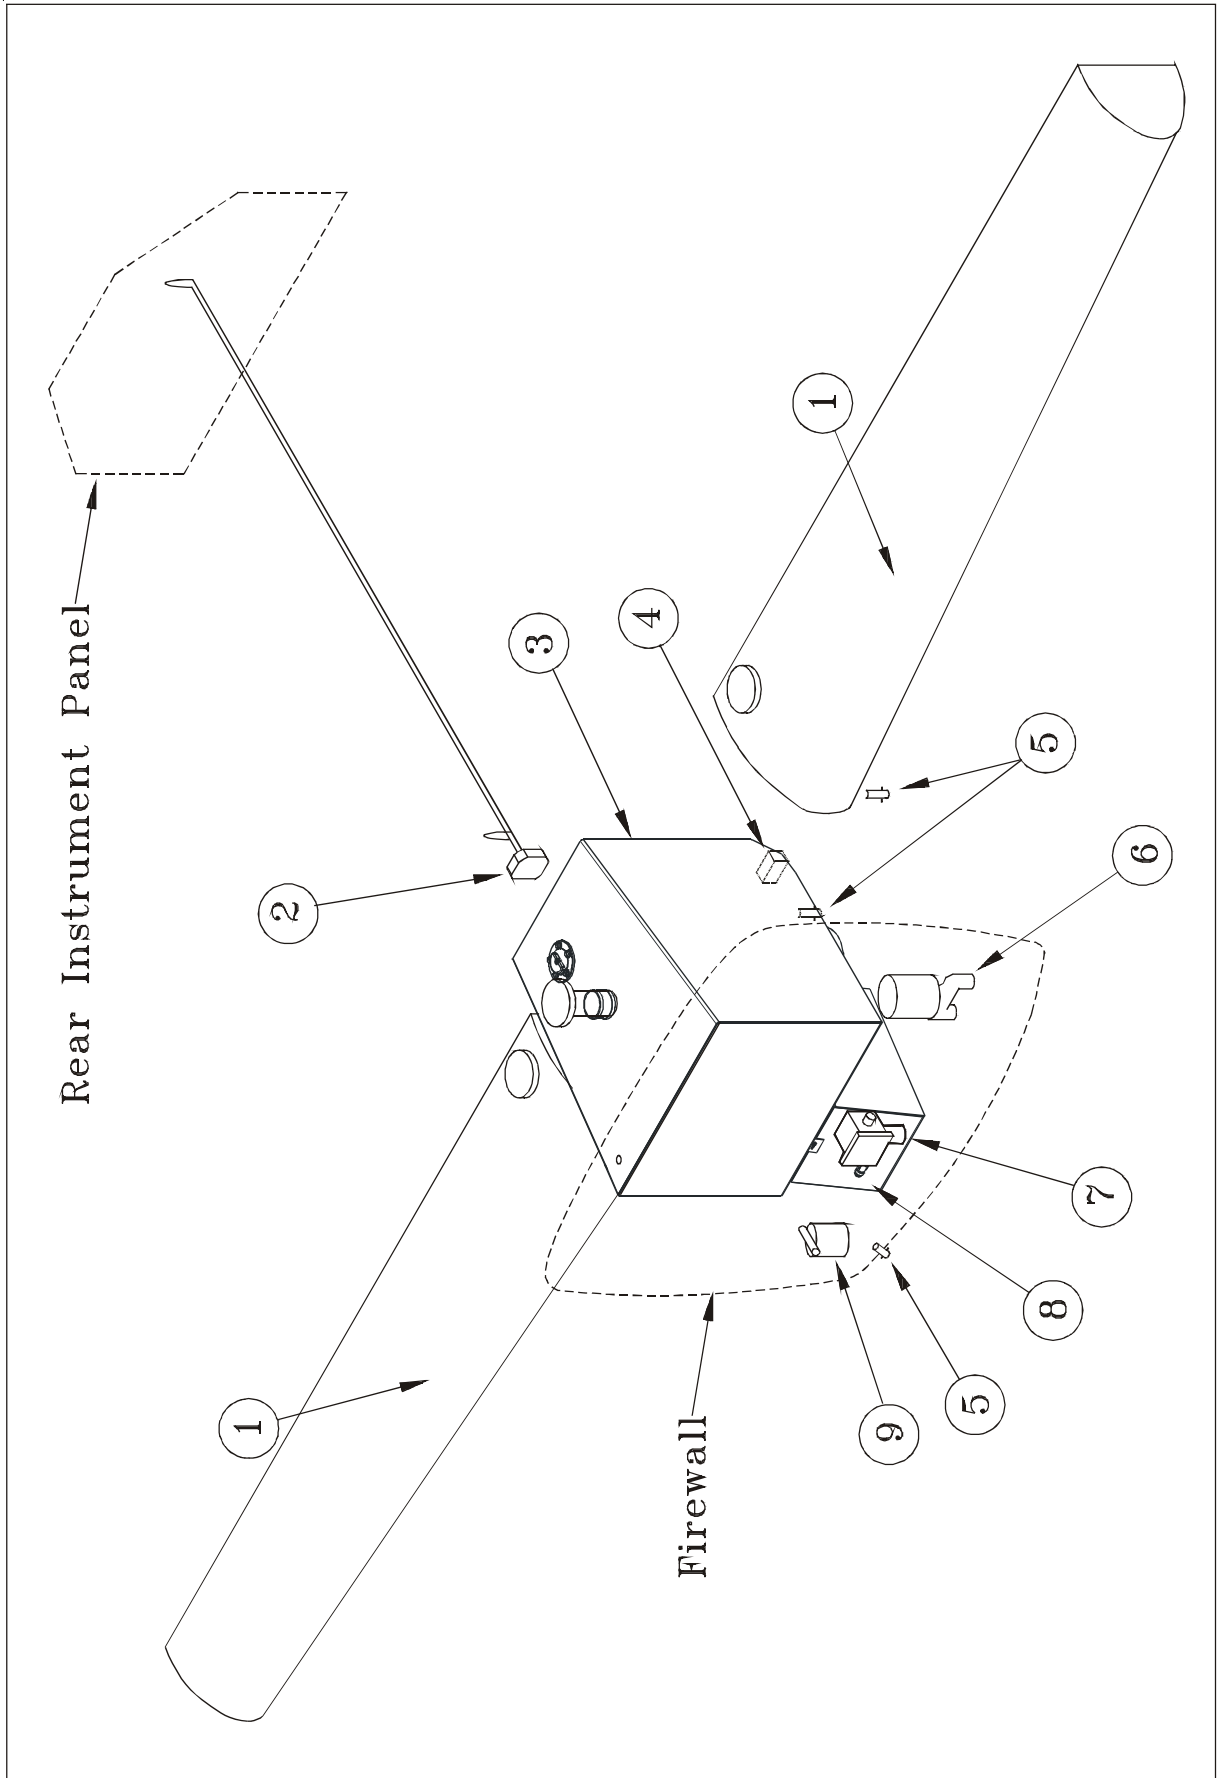

Figure 1 Fuel System
The fuel system (refer to figure 1) consists of one center tank (3), an acro tank (8), two wing tanks (1), a fuel selector valve (2), a gascolator (9), an electrically driven auxiliary pump (6), an engine driven rotary pump (7) and three fuel drains (5).